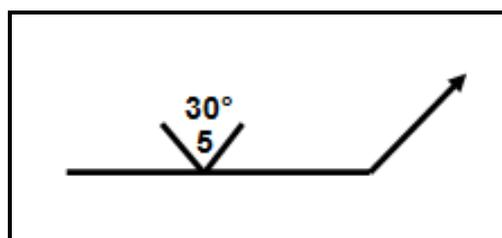

FIGURE 5.7 (2)
5.7 Identify the TWO dimensions of the weld as shown in FIGURE 5.7 below.